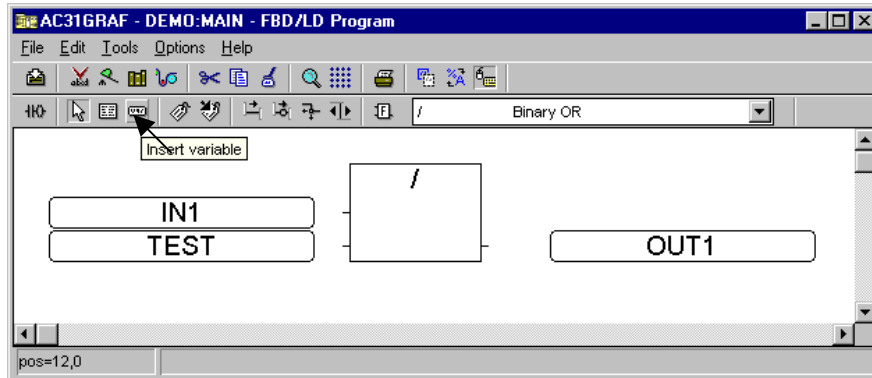

Figure 2-10 : Inserting variables
- ⇒ Select the  "Insert variable" icon (Figure 2-10) in the program editor window. Then place the cursor to the left of the function block, making sure that enough space is left so that the input variable does not overlap the function block, and click on the mouse.